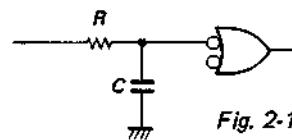

Fig. 2-14
- The connection of Fig. 2-14 is used for eliminating any narrow pulses superimposed on the input or for obtaining short delays of the rising and falling edges, etc. This circuit is very useful in preventing the oscillation of the entire system (racing), or for preventing chattering of the inputs, etc.